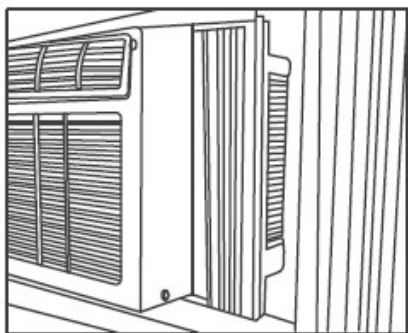

Fig.5
2. Keep a firm grip on the air conditioner, carefully place the unit into the window opening so the bottom of the air conditioner frame is against the window sill (Fig.5). Carefully close the window behind the top rail of the unit. (Suggest to keep a downward oblique, to let accumulated rain water to drain out, from back side of the unit bottom.)